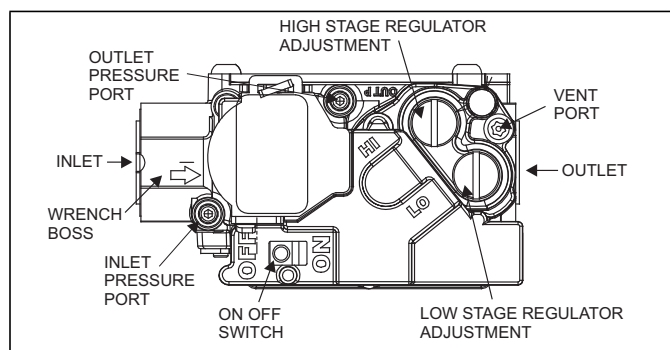

FIGURE 35: Gas Valve
Inlet and manifold gas pressure may be measured by connecting the "U" tube manometer to the gas valve with a piece of tubing. Follow the appropriate section in the instructions below. Refer to Figure 35 for the locations of the pressure ports on the gas valve.
Connect the positive side of the manometer to the IN P Tap on the gas valve. Do not connect any tubing to the negative side of the manometer, as it will reference atmospheric pressure. Refer to Figures 35 and 36 for connection details.
Connect the positive side of the manometer to the OUT P Tap on the gas valve. Do not connect any tubing to the negative side of the manometer, as it will reference atmospheric pressure. Refer to Figures 35 and 36 for connection details.
This gas valve has separate regulator adjustment screws for high fire and low fire, as shown in Figure 35. The procedure below is used to adjust either the high fire manifold pressure or the low fire manifold pressure.
1. Refer to Figure 35 for location of pressure regulator adjustment cap and adjustment screws on main gas valve.
3. Place jumper wire from W1 to W2 to R on the furnace control board for the furnace to operate HIGH fire. Once correct manifold pressure is set (HI), remove jumper from W2 for the furnace to operate on low fire. Set the manifold pressure (LO) to correct manifold pressure.